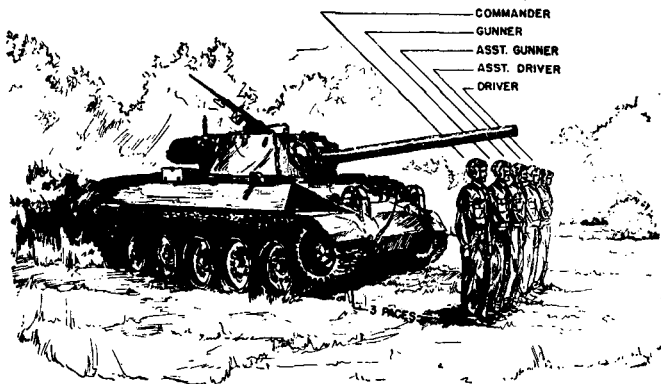

FIGURE 12.—Crew at DISMOUNTED POSTS.
■ 37. TO FORM CREW.—Command: DISMOUNTED POSTS. The crew forms in one rank. (See fig. 12.) The destroyer commander takes post three paces in front or rear of the right track, facing the front, and commands: IN FRONT (REAR), FALL IN. The gunner, assistant gunner, assistant driver, and driver, in order, take posts on the left of the destroyer commander at close interval.